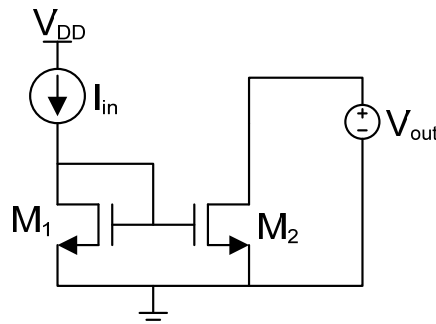
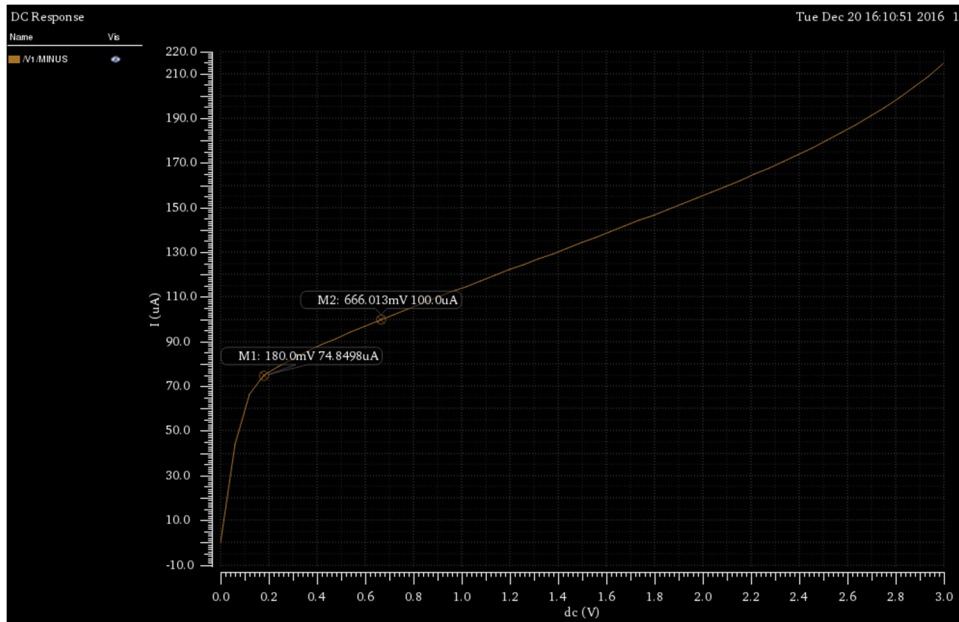
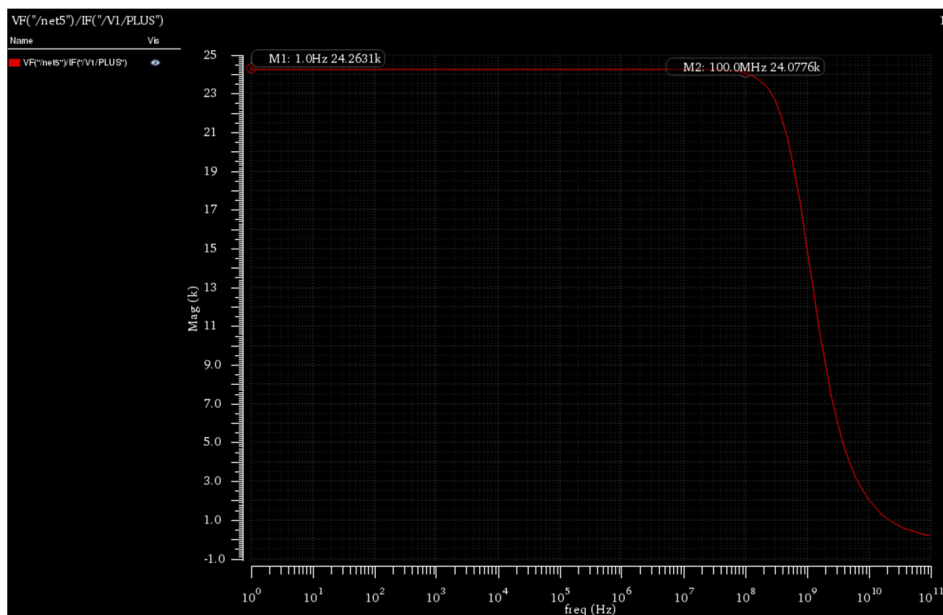

Figure 5-4: Current Mirror Test Configuration
Figure 5-5: Current Mirror Simulation Results for Compliance Voltage
Figure 5-6: Plot of Current Mirror Output Impedance
Once a current mirror has been designed using hand calculations, use the test configuration in Figure 5-4, where I_{in} is the reference DC current and V_{out} is a DC voltage source that will be varied in a DC sweep simulation. After running the simulation, I_{D2} can be plotted by choosing *Results*→*Direct Plot*→*DC*, then clicking on the (-) terminal of the voltage source V_{out} . The resulting I_{D2} versus V_{out} plot should resemble Figure 5-5. The compliance voltage will be the point on the plots where I_{out} begins to change rapidly, indicating that the output transistor is entering the linear region of operation.
To plot the output impedance, go to *Tools*→*Calculator*. First, click on “vf” on the Calculator and then the output node (wire) on the schematic. Second, click on “if” on the Calculator and then the (-) terminal of the voltage source V_{out} on the schematic. Finally, click on “/” on the calculator, and then *Tools*→*Plot*. The output impedance plot should resemble Figure 5-6. In this example the output impedance is about 24 kΩ at low frequencies and then begins to decrease around 100 MHz.
- b) Generate the plots of Figure 5-5 and Figure 5-6 for this design. Determine the compliance voltage, low frequency output impedance, and comment on accuracy.
- b) Generate the plots of Figure 5-5 and Figure 5-6 for this design. Determine the compliance voltage, low frequency output impedance and comment on the accuracy.